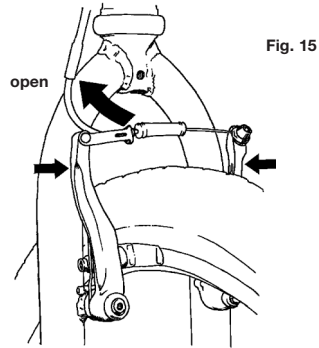

Fig. 15
- 3 Some bicycle brakes, such as disc brakes (fig. 14) and V brakes (fig. 15), are extremely powerful. Take extra care in becoming familiar with these brakes and exercise particular care when using them.